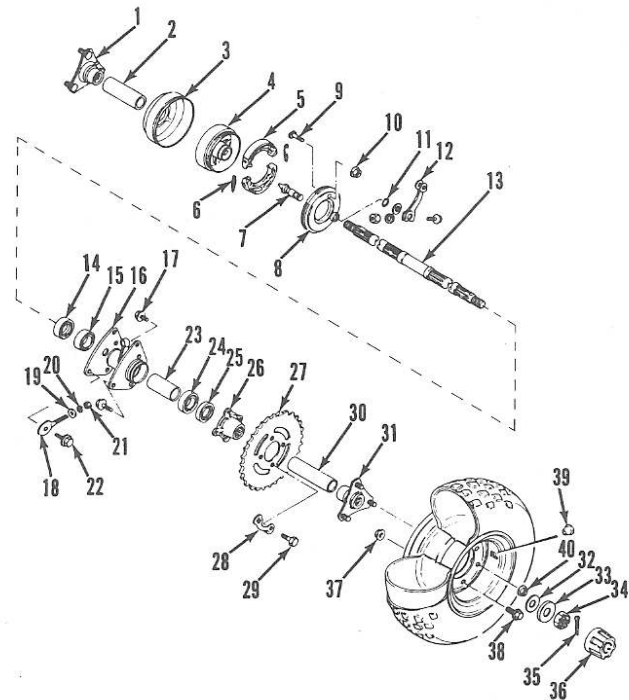

Fig. S1-16—Exploded view of rear axle, brake and related components used on both models.
R&R AND OVERHAUL. To remove rear brake shoes for inspection or renewal, first suitably support rear of vehicle and remove right rear tire and wheel. Remove wheel hub retaining nut and withdraw wheel hub (1—Fig. S1-16) from axle (13). Slide spacer (2), brake drum cover (3) and brake drum (4) off axle. Carefully remove brake shoes (5) from backing plate (8).